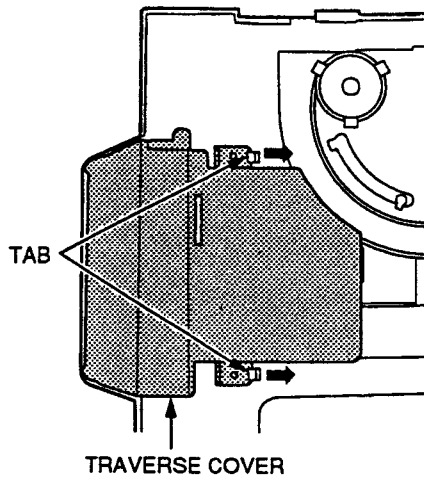

Fig. 3-1
- 1) Remove the TRAVERSE COVER by releasing the two tabs in the direction of the arrow as shown in Fig. 3-1.